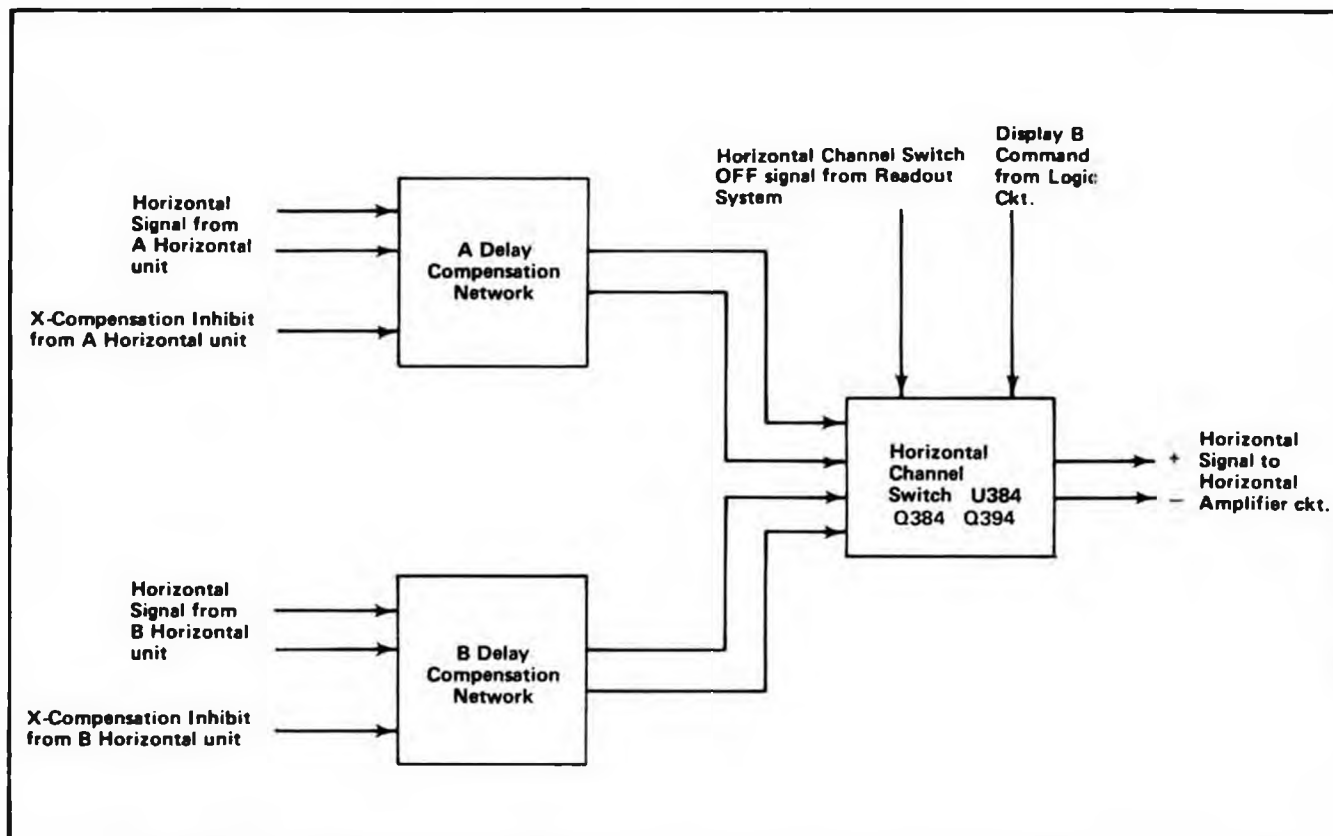

Fig. 3-27. Horizontal Interface detailed block diagram.
The Horizontal Interface circuit is made up of the X-Y Delay Compensation Network and the Horizontal Channel Switch stage. The X-Y Delay Compensation Network provides a delay for the horizontal (X) portion of an X-Y display to match the delay of the vertical (Y) signal due to the Delay Line. The Horizontal Channel Switch portion of the circuit selects the horizontal deflection signal from the output of the A Horizontal and/or the B Horizontal plug-in unit. Fig. 3-27 shows a detailed block diagram of this circuit. A schematic of this circuit is shown on diagram 6 at the rear of this manual.